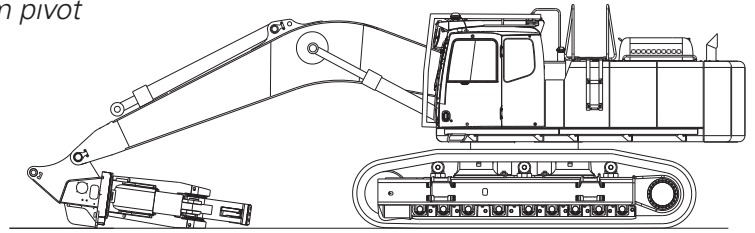

FIGURE 3-4
4. With the jaws of the attachment facing the excavator, bring the excavator into position, carefully lining up the excavator boom tip with the boom pivot connection on the attachment mounting bracket (figure 3-4).